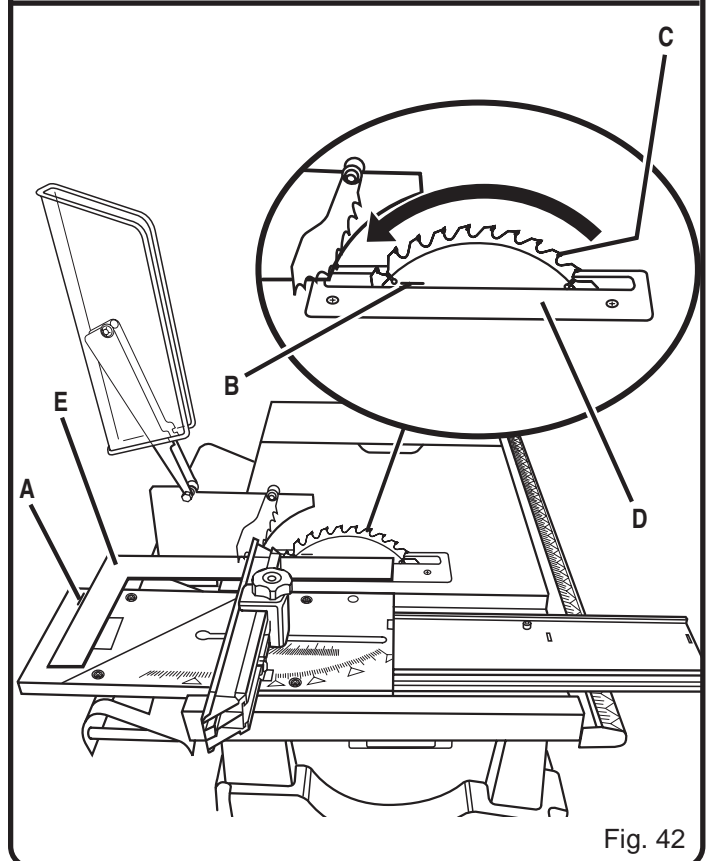

Fig. 42
- Remove framing square and slide miter table to the rear of miter base as far as it will go. See Figure 42.